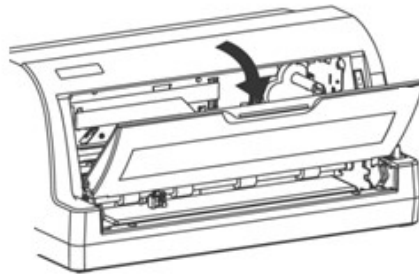

Fig. 1-4
- 1) Open the transparent cover as the arrow direction in Fig. 1-4, do not press it heavily.